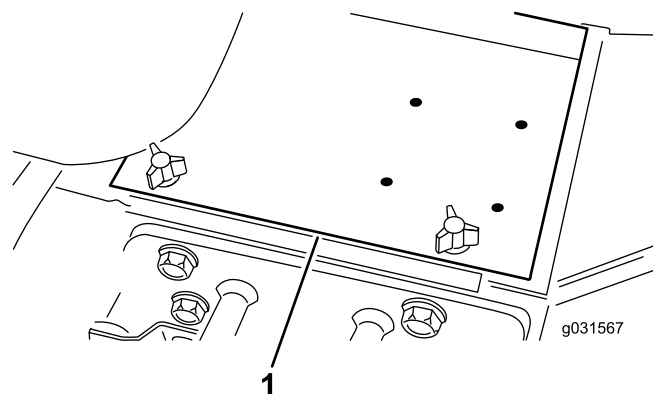

Figure 3
1. Remove the battery cover (Figure 3).